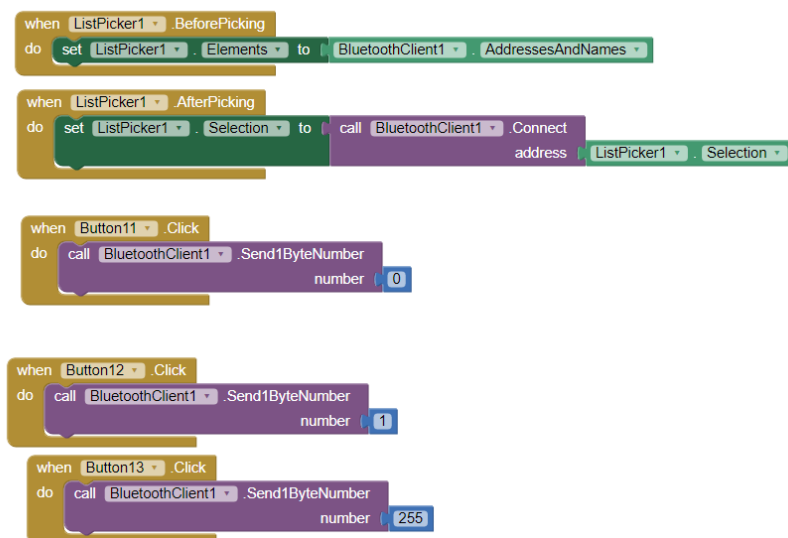

Figure 1
**Bluetooth App for Android Devices:** I designed a Bluetooth App to control my chameleon robot using MIT App Inventor designing tool. In my design I used 3 buttons: move left leg, move right leg and stop. I also uploaded my APK file to Google Drive: <https://drive.google.com/file/d/18wNobDDO37FYa4zFW3IFOKQ-AWmB0mS-/view?usp=sharing>. Figure 1 shows the blocks view of my app inventor design.